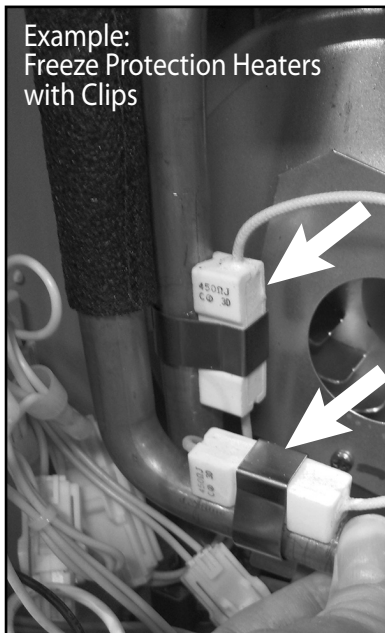

Figure 28.
See also Figure 28.
- Two (2) freeze protection heaters and clips; one is located on the outlet tube near the bottom and the other is located on the connection tube from the secondary heat exchanger. (See items 413 and 414 on page 70. See also page 39, Figure 28.)